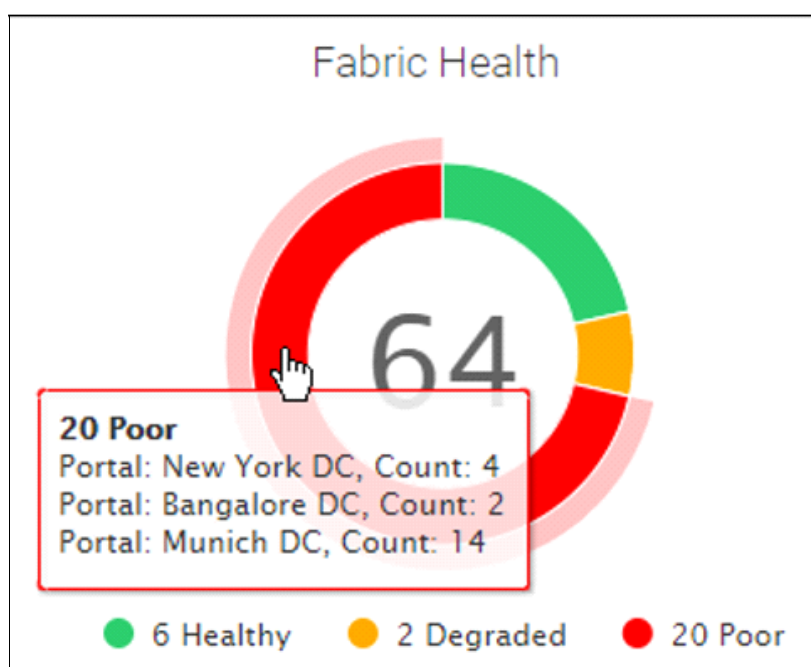

Figure 11-48 Fabric Health: 20 Poor
2. Hover over a colored portion of the Fabric Health widget to display details of the fabrics with that state. For example, hover over the red portion to display a list of portals and the number of fabrics in each portal having a poor state (see Figure 11-48).